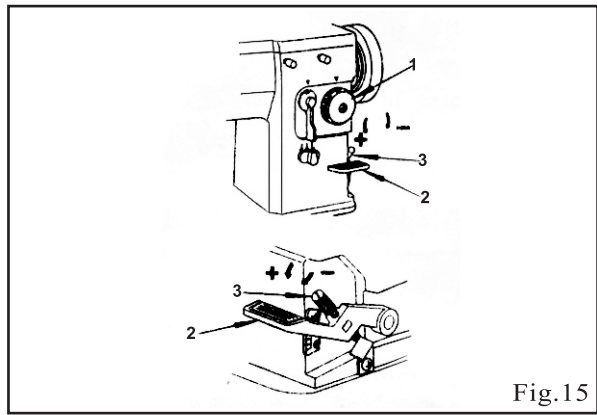

Fig.15
11. ADJUSTING STITCH LENGTH (Fig.15)